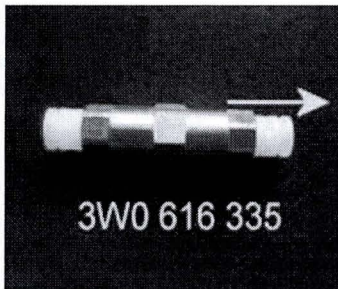

Figure 2
- Using Part number 3W0 616 335 unscrew one end of the union (Figure 2) ensure the white bung is not removed from the assembly until fitted